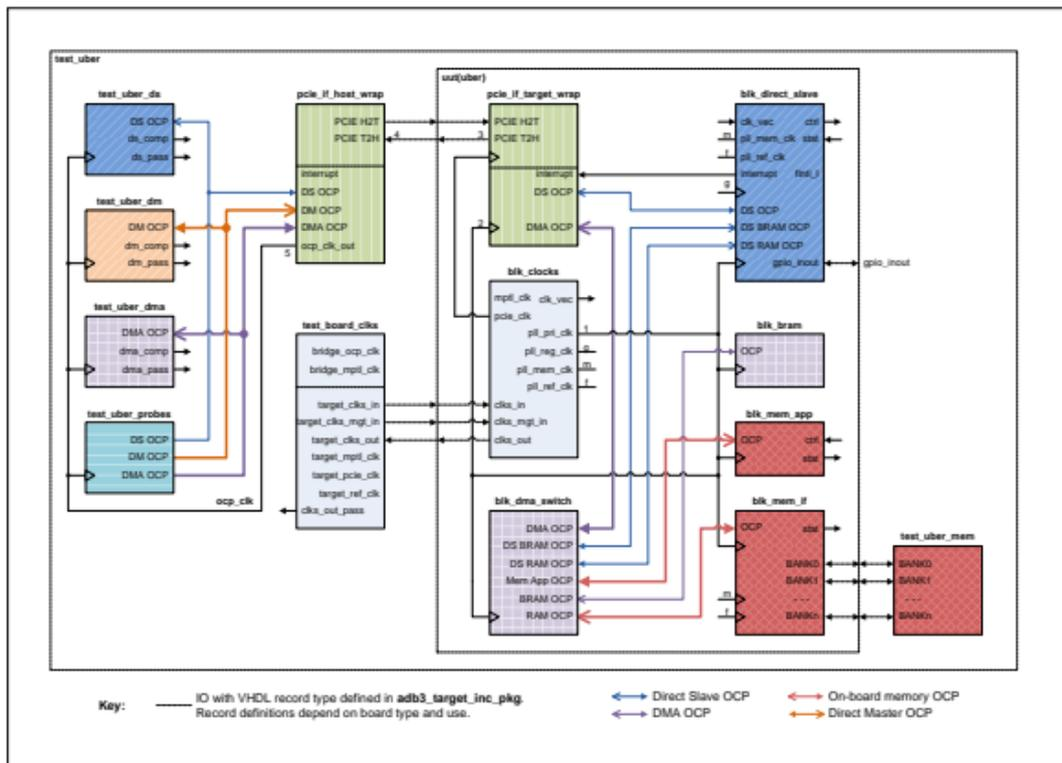

Figure 24: Uber Design Testbench and Top Level Block Diagram (PCIe)
Figure 24 shows the testbench and main elements of the **uber** FPGA design using PCIe interface IP.
- The testbench OCP clock `ocp_clk_out` path is shown in Figure 24 as the route consisting of points 1, 2, 3, 4 and 5.